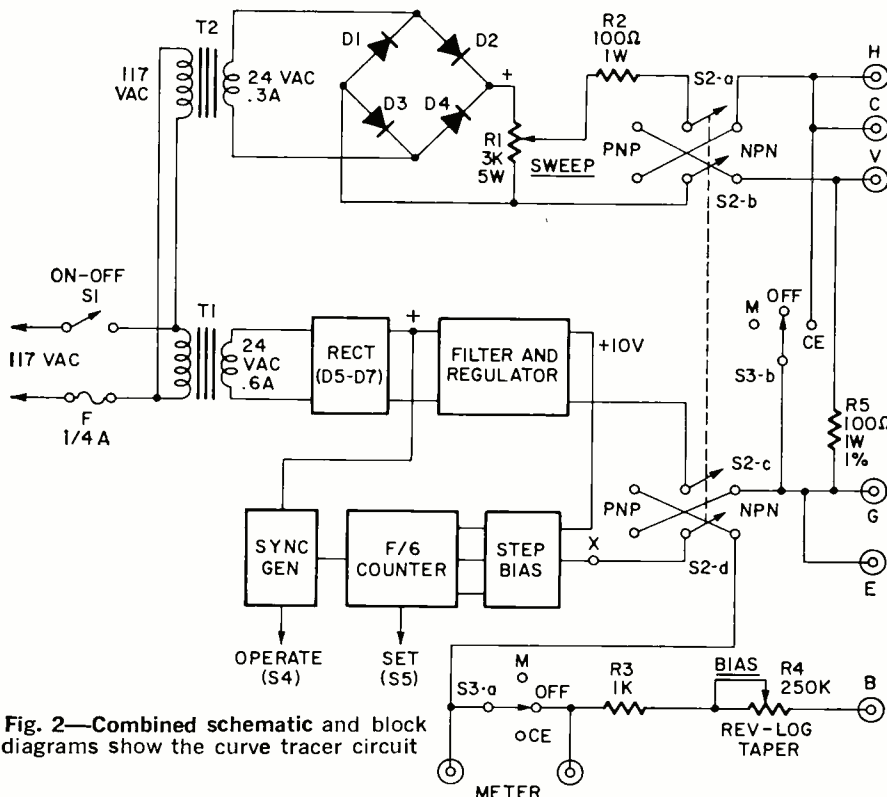

Fig. 2—Combined schematic and block diagrams show the curve tracer circuit
A combined block diagram and schematic of the scope tracer circuit is shown in Fig. 2. No chassis ground is used as both supplies must be reversed to accommodate the two types of transistors.
- PARTS LIST (Figs. 2, 3 and 4)**